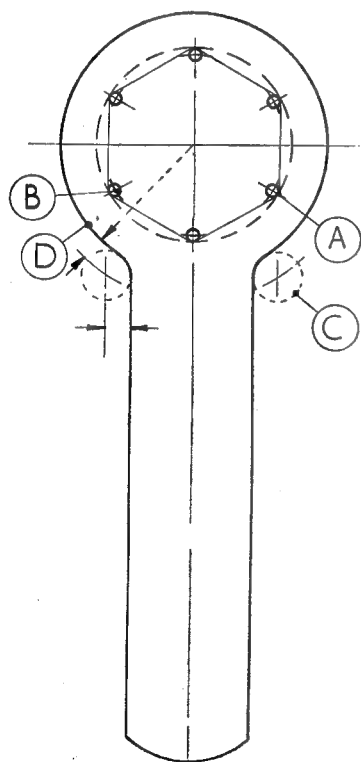

Fig. 2. Marking-out the spanner
A punch mark is next made on the centre-line of the material at the centre of the spanner head, and a circle (A), Fig. 2, is scribed with the dividers set equal to half the distance across the nut corners. Starting at the centre-line, six equidistant points are marked by stepping round the circle with the dividers.